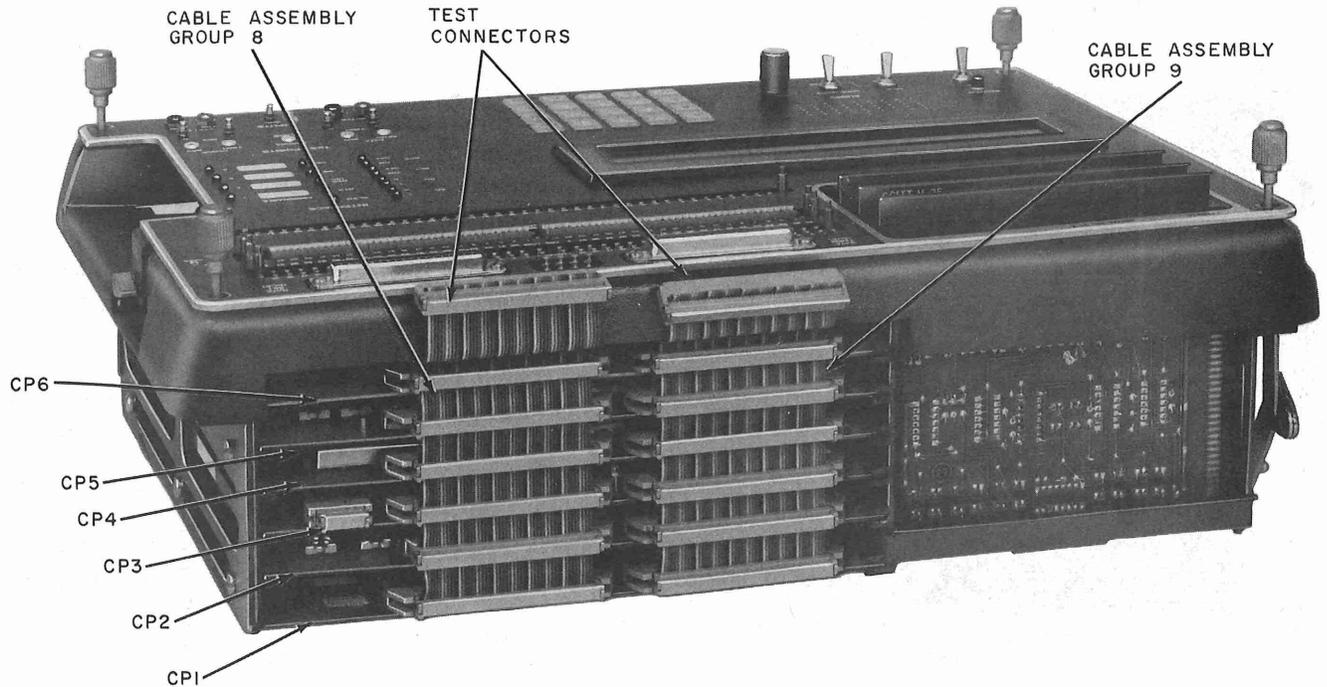

Fig. 5—921A DTS (Version 1) Removed From Case—Rear View
- (1) Disconnect cable assembly (groups 8 and 9) located at rear of framework (Fig. 5).